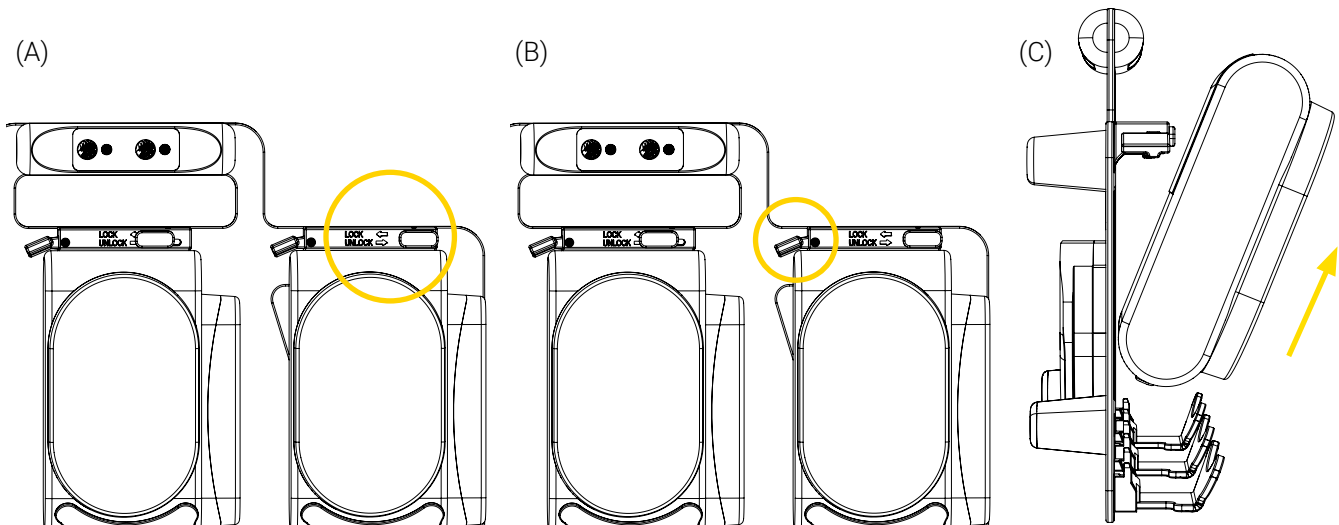

Figure 6: Infusion pump removal
2. Move the lock/unlock slider button to the right to unlock the pump (Figure 6 A).
3. Press and hold down the quick release lever (Figure 6 B).
4. Grab the pump and tilt it, leaning the pump against the front fold of the holder (Figure 6 C).